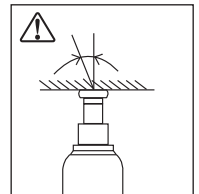

Fig. 4 - Inclined Load
**WARNING:** During lifting, the inclined load must not exceed 6 degrees. See Fig. 4.